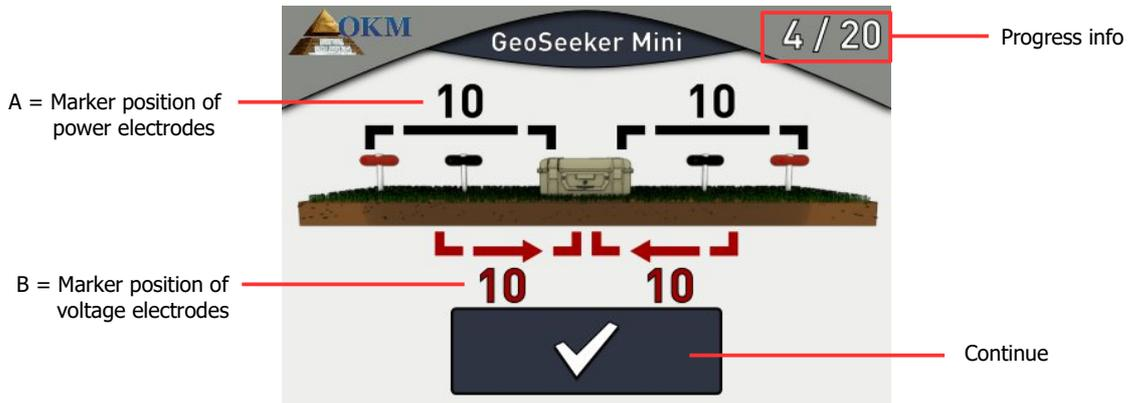

Figure 5.4: Adjust marker positions for next scan
All parameters have been adjusted now and you can set up your electrodes according to the screen shown in figure 5.4. This measurement screen gives information about the position of each electrode.
Progress info: The numbers in the top right corner are indicating how many scan points have been measured. In the example of figure 5.4 you have to measure 20 scan points in total, whereas 4 scan points have been measured already.
- **A** ... is the distance between left Power Electrode and control unit as well as the distance between control unit and right Power Electrode in terms of distance markers (numbered from 1 to 10). In the example of figure 5.4 you have to place the Power Electrodes at marker “10”.
- **B** ... is the distance between left Voltage Electrode and control unit as well as the distance between control unit and right Voltage Electrode in terms of distance markers (numbered from 1 to 10). In the example of figure 5.4 you have to place the Voltage Electrodes at marker “10”.
You can also write down these values if you like to keep the results for own calculations or reports. When you are ready to continue with the next scan point push the button. Now you have to adjust the electrodes according to the information on your screen again (see figure 5.4 on page 23).